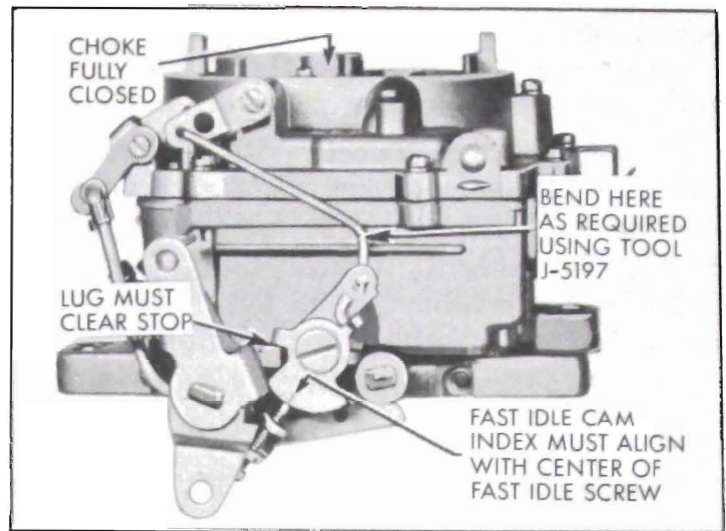

Figure 3-55—Fast Idle Cam Adjustment
21. *Adjust Fast Idle Cam Position.* With choke valve held fully closed, open throttle slightly to allow fast idle cam to spring to a neutral position. Now index mark on fast idle cam must align with center of fast idle screw. If mark does not align, bend fast idle rod using Tool J-5197 as required to make mark align. See figure 3-55. **NOTE:** With choke fully closed and index mark aligned, lug on fast idle cam must clear stop on throttle body.